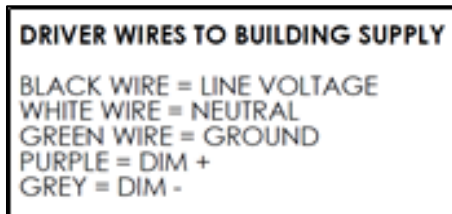

FIG. 10 – WIRE CONNECTION FROM BUILDING SUPPLY TO DRIVER
1. Connect building supply wires to the driver as per connections shown in FIG. 10.